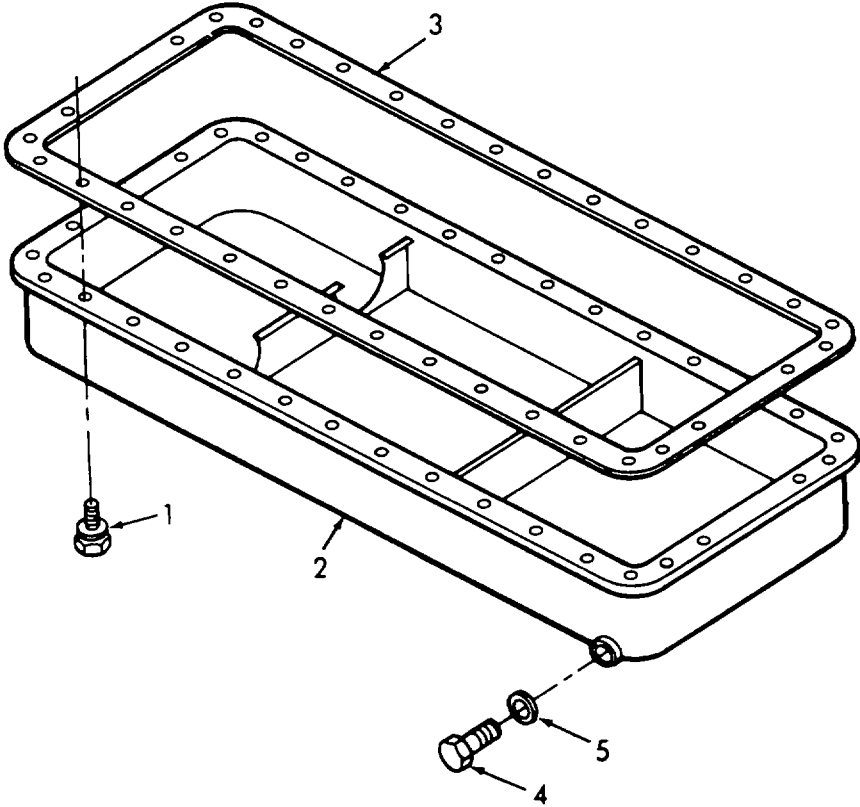

Figure 3-76. Oil Pan, Removal/Installation.
- a. **Removal.** (Refer to figure 3-76).
- (1) Remove thirty-four bolts (1) and oil pan (2).
- (2) Remove and discard gasket (3).
- (3) Remove drain plug (4) and gasket (5).